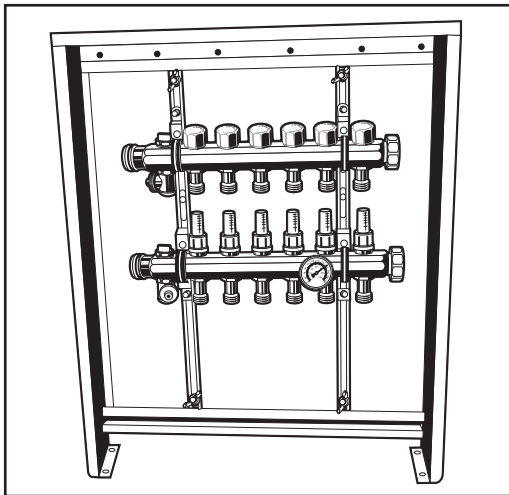

Figure 2a
2. Using the hangers provided with the manifold, attach the manifold to the cabinet rails by inserting the manifold mounting holes onto the manifold mounting bolts. See *Figure 2a*.